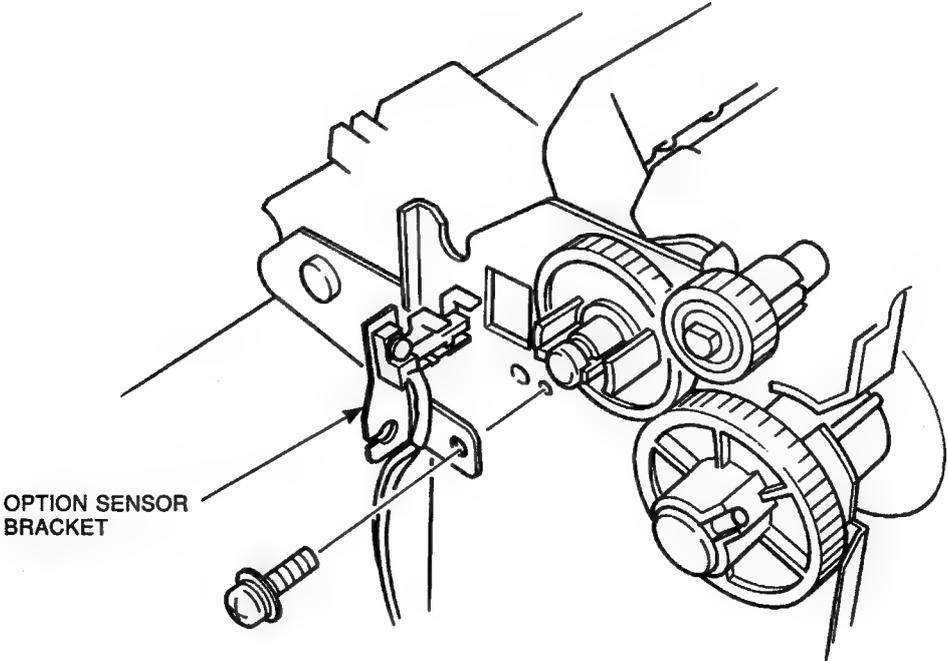

Figure 3-29 Option Sensor Bracket
3. Remove the option sensor bracket by removing the screw securing it to the left side frame (see Figure 3-29).